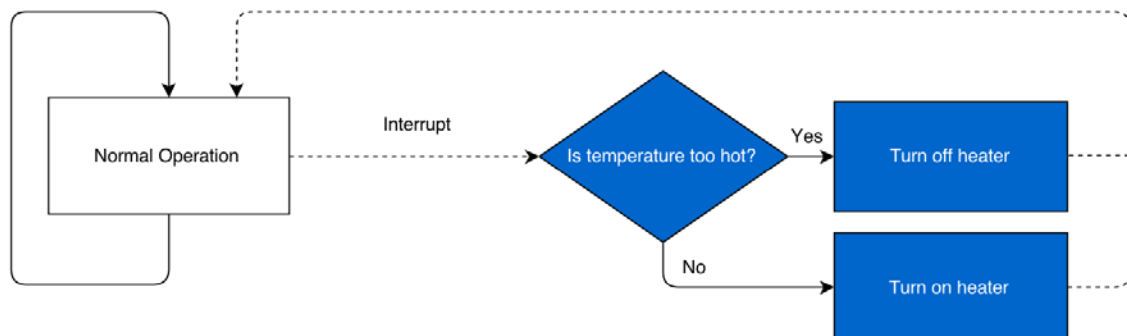

Figure 3: Temperature interrupt flow chart
- Method 2: The system continues to perform its current activities. When the temperature rises above or falls below the set range, the system is immediately informed, after which it immediately reads the current temperature and decides whether to turn the heater on or off. This process is shown in Figure 3.